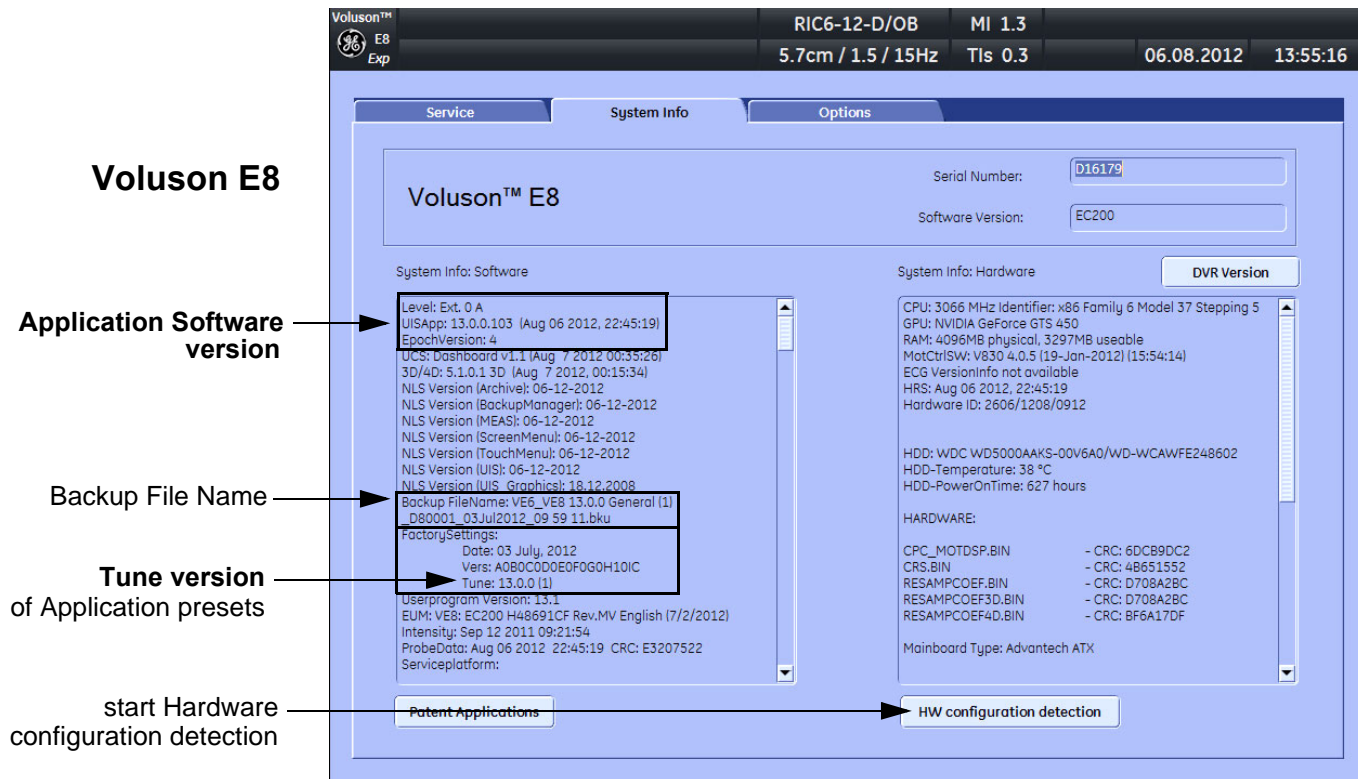

Figure 8-14 System Setup - Administration - SYSTEM INFO page (e.g., BT13)
- 8.) Disconnect all probes and then click the button at the bottom of the **SYSTEM INFO** page to start Hardware configuration detection (see: Figure 8-14 above).